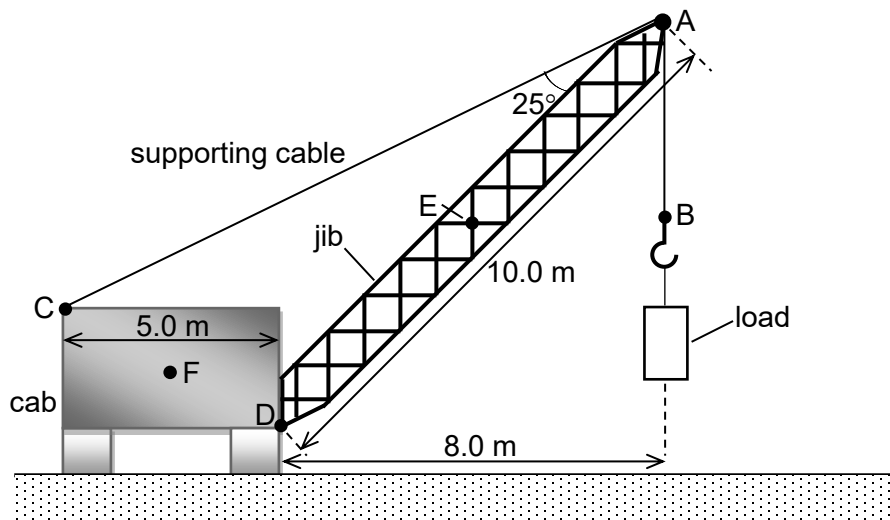

Fig. 2.1
- 2 Fig. 2.1 shows a crane being used to lift and lower a load of mass 300 kg. The load at point B is attached to point A of the jib using a cable.
- (b) For the jib in the position shown in Fig. 2.1, there is a maximum load which will just topple the crane.
- (i) On Fig. 2.1, label **G**, the point about which the crane will topple.